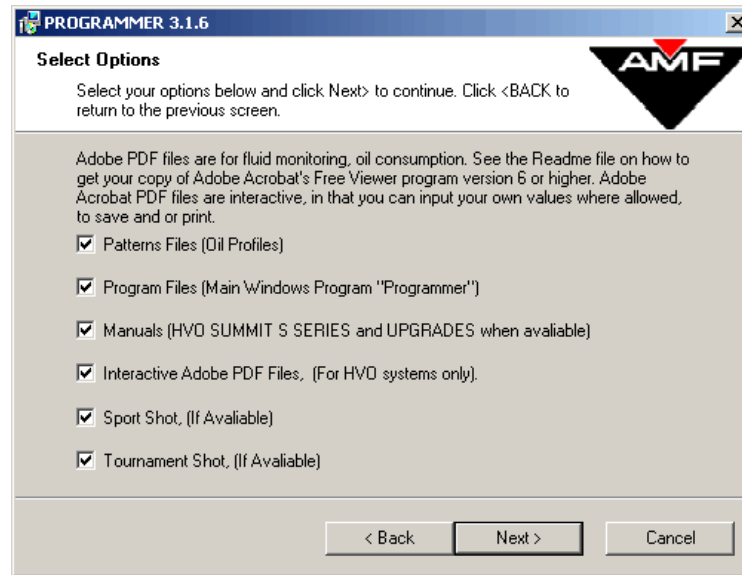

Figure 1-6
- There are several different files that can be installed that are for fluid monitoring and oil consumption. These files require the use of Adobe Acrobat Reader 5.0 or higher which is included on the cd. It is recommended that all of the checkboxes remain checked for this part of the installation as shown in **Figure 1-6**. Click the <Next> button.